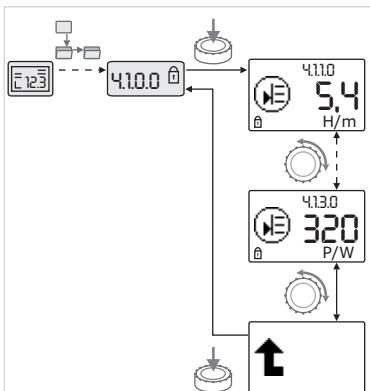

Fig. 34: Calling up information
- Turn the white button to access the “Information” menu elements in the current sub-menu (see Fig. 34). For an explanation of the settings represented by the symbols, see the table in Section 8.7 “Menu elements reference” on page 79.